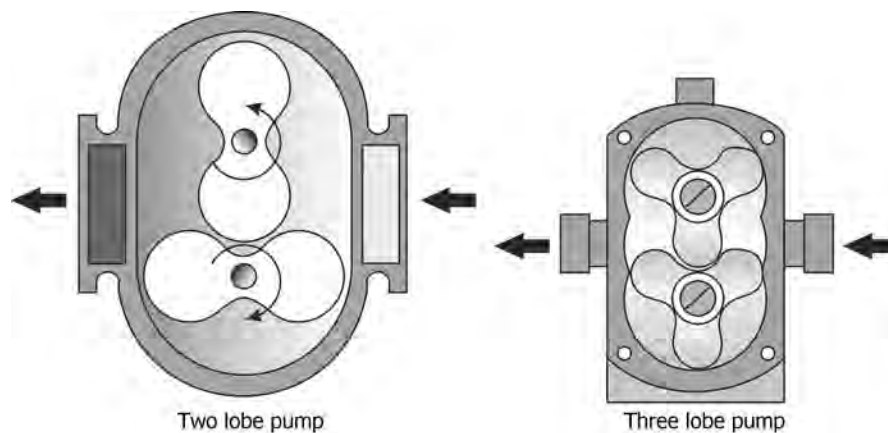

FIGURE 5.27 Rotary lobe pumps.
- Figure 5.27 illustrates lobe-type rotary pumps.